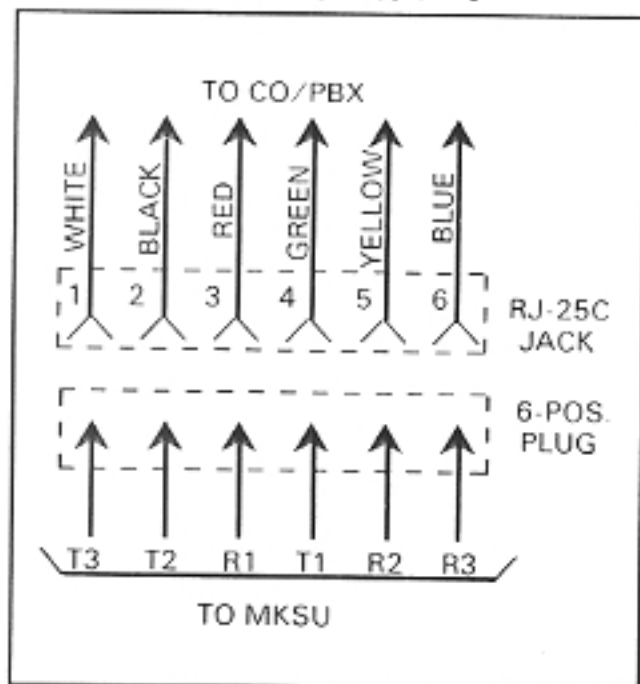

FIGURE 23—RJ-25C COLOR CODE
07.31 The CO/PBX lines are introduced into the **Strata VI** system via 6-wire modular line cords (no longer than 25 ft.) connected directly to a jack on the MCOU PCB. Each modular cord contains three lines. The opposite end of each cord then terminates directly into a locally-provided RJ-25C jack (Figure 23).